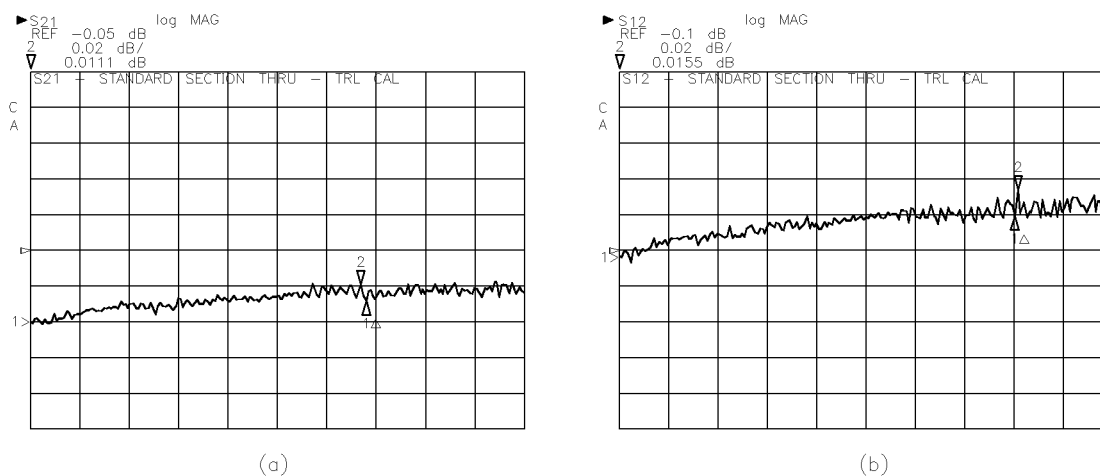

Figure 5-5. Typical Corrected S_{21} and S_{12} Standard Section Ripple
5. After one complete measurement sweep, the displayed trace should look similar to the typical trace shown in Figure 5-5.